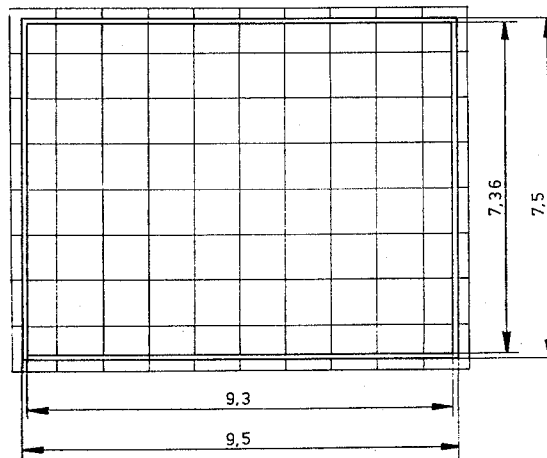

Fig. 3.8. Barrel and cushion distortion
- The displayed rectangle must fit between the lines in indicated in Fig. 3.8.